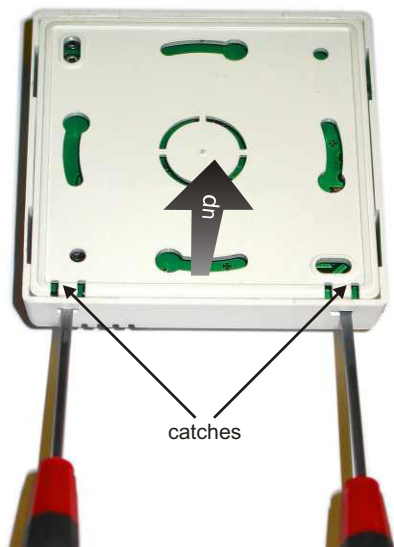

Fig.1. Removing back cover
- remove the back cover (Fig. 1)